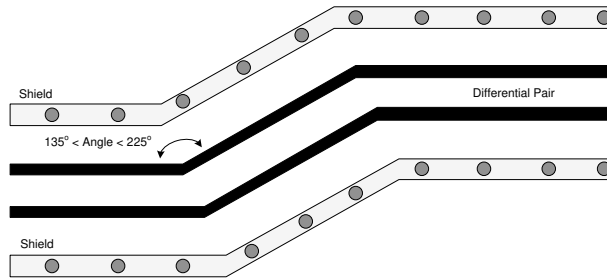

图 8-3. V-by-One Routing Example
- Ensure that the bend angles associated with the differential signal pairs are between 135° and 225° (see 图 8-3).